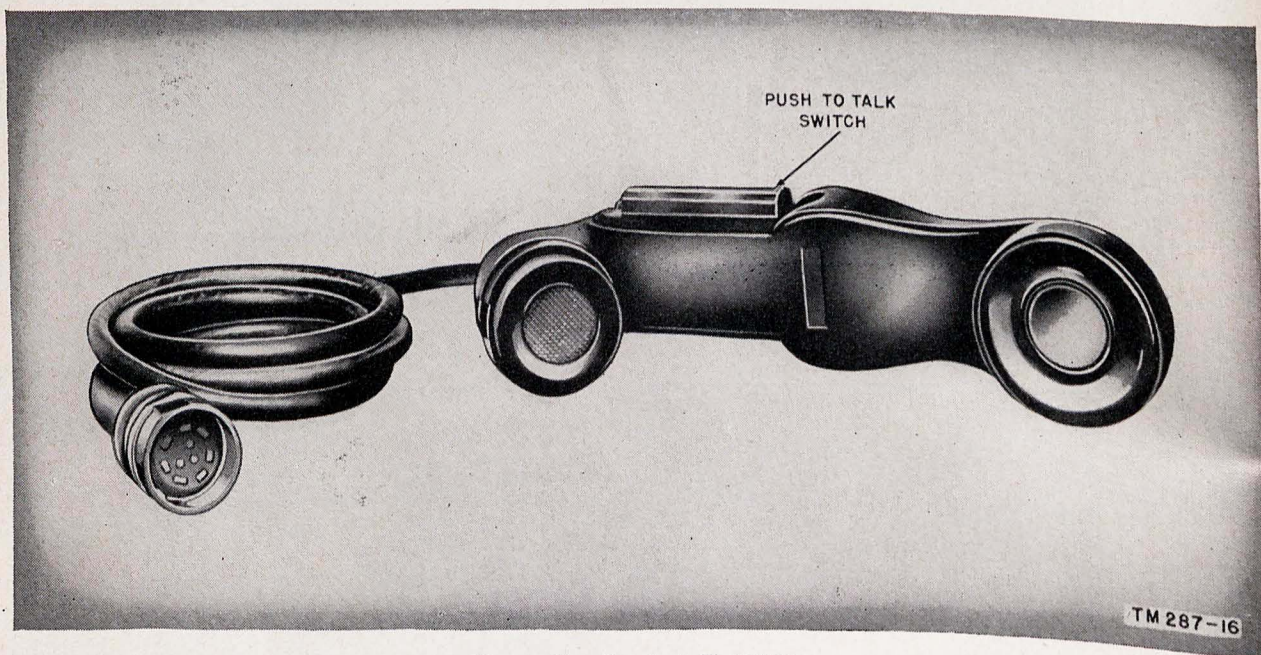

Figure 13. Handset H-33/PT.
d. Handset H-33/PT (fig. 13) may be used at the panel AUDIO receptacle of either control unit. The handset is equipped with a push-to-talk non-locking switch which incorporates a DPST (double pole, single-throw) switch. The handset cord is terminated in a 10-pin connector which will mate with any of the 10-pin AUDIO receptacles on the control units and receiver-transmitter.
e. HANDSET H-33/PT. Handset H-33/PT (fig. 13) is a combination microphone and receiver with a push-to-talk switch and connecting cord. Microphone impedance is 40 ohms; receiver impedance is 300 ohms. The push-to-talk button is a nonlocking DPST switch. The cord is 5 feet long and is terminated in a 10-pin audio plug which will mate with the audio receptacles on the receiver-transmitter and the control units.